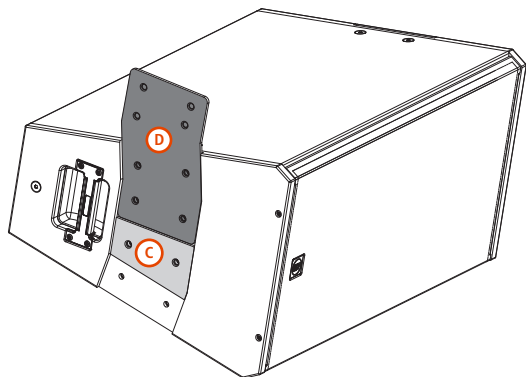

FIGURE 1
- On the **top** and **following** speakers of the cluster, the External Plate **C** must be placed next to the C-BR 10°, as shown in **FIGURE 1**.